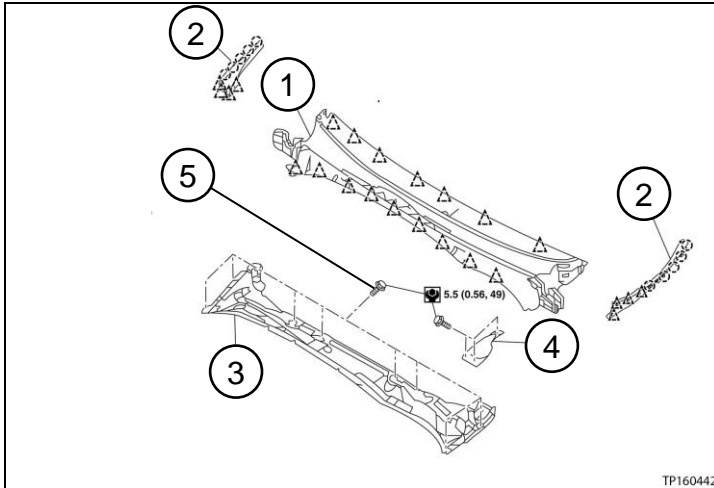
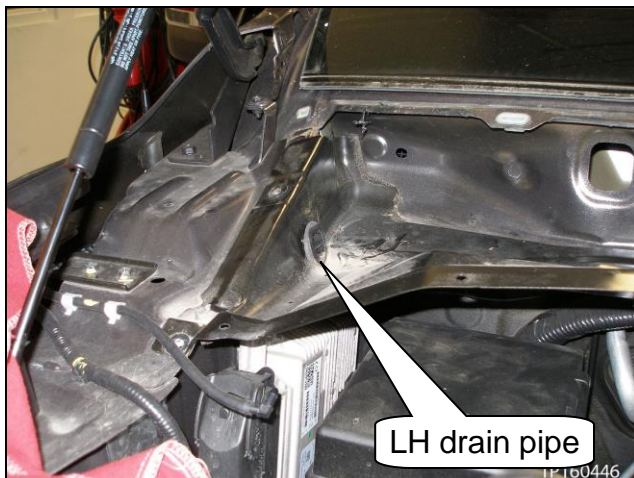

Figure 7
Figure 9
- e. Using a suitable tool, unsnap all pawls and clips, and then carefully remove the cowl top cover (see Figure 7, # 1).
- NOTE:** Remove the cowl top side trim cover(s) as needed (see Figure 7, # 2).
- f. Remove the cowl top extension bracket (see Figure 7, # 4).
- h. Remove the eight (8) bolts and both drain pipes, and then remove the cowl top extension (see Figure 7, # 3 & 5, and Figure 9 and 10).